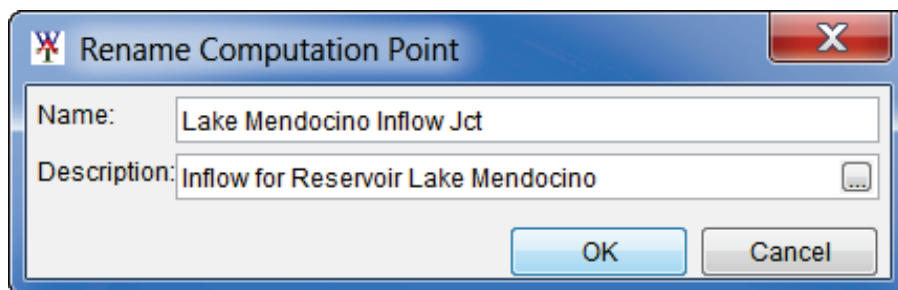

Figure 7.19 Rename Computation Point Dialog Box
- To change the name of a common computation point, press the **Computation Point** tool , right-click on one of the common computation points. From the shortcut menu, click **Rename Computation Point**; the **Rename Computation Point** dialog box will open (Figure 7.19). In the **Name** box, enter the new name, and in the **Description** box enter a description (optional, but recommended). For example, in Figure 7.19, the inflow junction for *Lake Mendocino* has been labeled *Lake Mendocino Inflow Jct*, and the outflow junction should be labeled *Lake Mendocino Outflow Jct*.
- Click **OK**, a **Confirm Rename** window will open, asking the user to be sure that the CCP is to be renamed. Click **Yes**, the **Rename Computation Point** dialog box will close (Figure 7.19) and the new name for the CCP will appear in the map window.